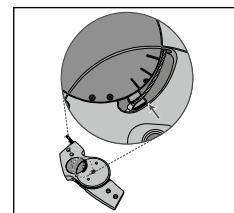

Fig. 5
3. After removal of the cover plate check if the upper side of the Lever Arm (holding the satellite cable) is parallel to the lower of the three markers on the Function Unit (see Fig. 5).
12. Recheck the correct position (Mode 3) of the Lever Arm in the Function Unit of the joint (**see Fig. 5**).